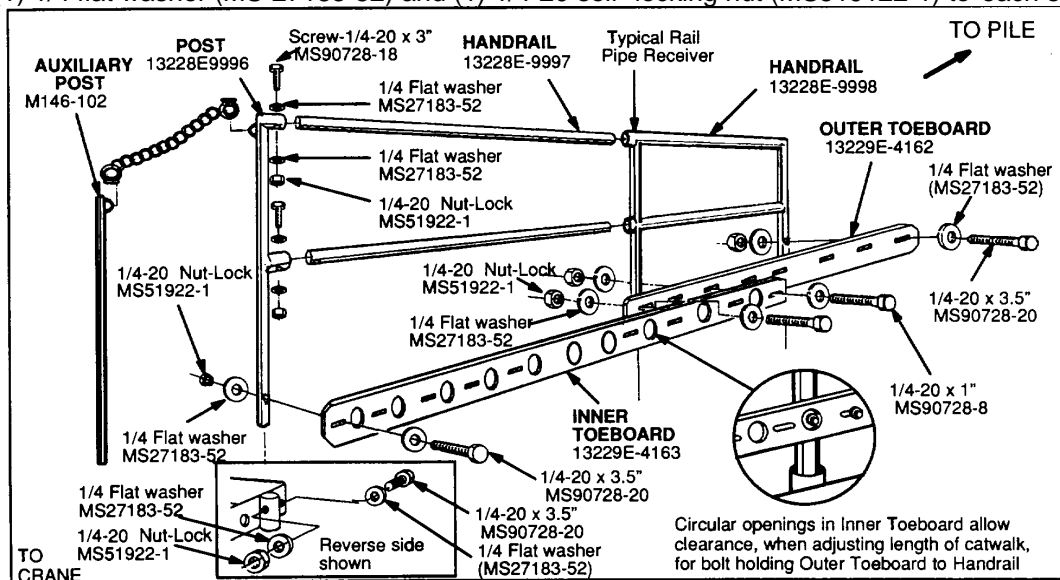

Figure 4. Installing Handrails, Posts, and Toeboards
- a. Place Outer Toeboard (13229E-4162) into position against Handrail (13229E-9998) and align the mounting holes (see Figure 4).
- b. Insert (1) 1/4-20 x 3.5" (MS90728-20) screw through each end slot and through the aligned hole in the Handrail (13229E-9998). Install Flat washer (MS 27183-52), and 1/4-20 Self locking Nut (MS519122-1) to both screws and tighten. Repeat for other side.
11. Position (4) Handrails (13228E-9997) Inside Handrail (13229E-9998).
- a. Install and hand tighten (4) 1/4-20 x 3" screws and fastening hardware through the holes in the ends of the Handrails (13228E-9997) to limit travel into Handrail (13229E-9998).
- b. Slide the (4) Handrails, with the fastening hardware end towards you, horizontally into the pipe receivers of both Handrails (13229E-9998).
- b. Install 1/4-20 x 3.5" screw and 1/4 flat washer into each bottom end through the mounting holes in the pipe receivers (see Figure 4). Install (1) 1/4 flat washer (MS27183-52) and self locking nut (MS51922-1) to each screw and tighten.
- b. Install (2) 1/4-20 x 1" screws (MS-90728-8) through both toeboards at end near pile, (2) 1/4-20 x 3.5" (MS90728-20) on each side at other end of Inner Toeboard. Forward screws mount through post uprights and rear screws is positioned through the slots in both toeboards.
Circular openings in Inner Toeboard (13229E-4163) will provide clearance for the screw that mounts Outer Toeboard (1 3229E-4162) to end of Handrail (13228E-9996) (see Figure 4).